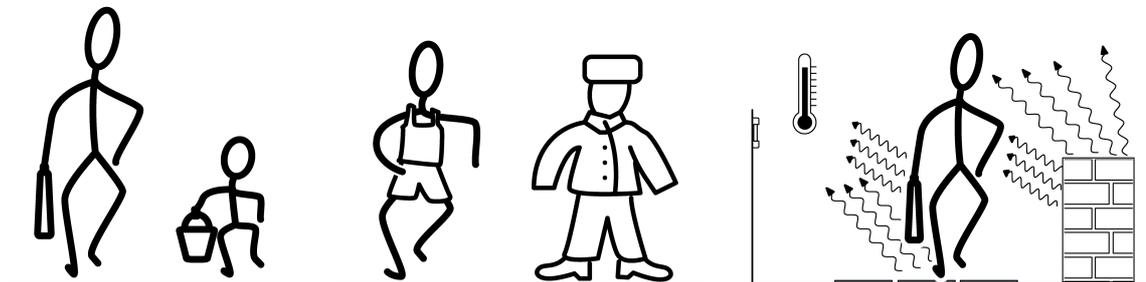

Figure 5: Size, insulation and contrast of heat sources
- Size of the heat source, e. g. adult or child (Figure 5)
- Temperature of the heat source: surfaces at 37 °C radiate more intensely than at 10 °C (Figure 5).
- Contrast between the heat source and the environment: if the heat source radiates just as intensely as the environment, detection will be significantly more difficult (Figure 5).